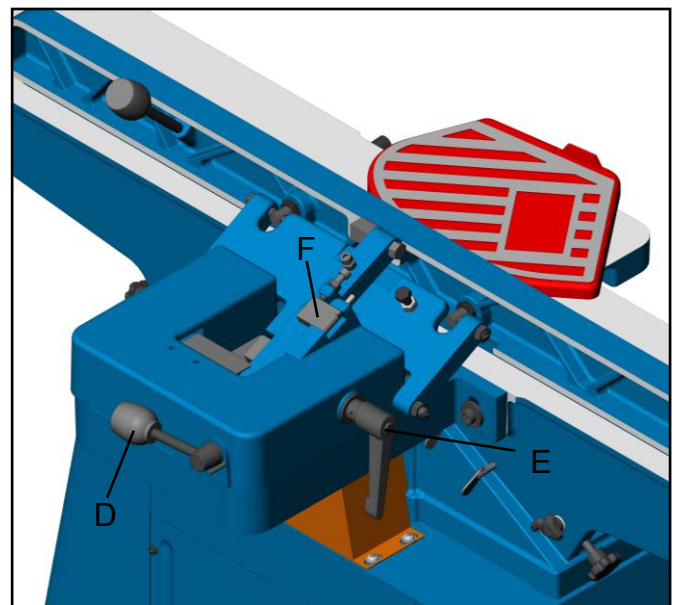

Fig. 8
1. Loosen locking handle (E), Fig. 8
2. Flip back the stop block (F).
3. Adjust the fence to the desired angle and tighten locking handle (E) to secure fence.
**NOTE:** The lock knob (D, Fig. 8) can be adjusted to a more convenient position by loosening the nuts on its opposite end, turning the handle to the proper position, and retightening the nuts.